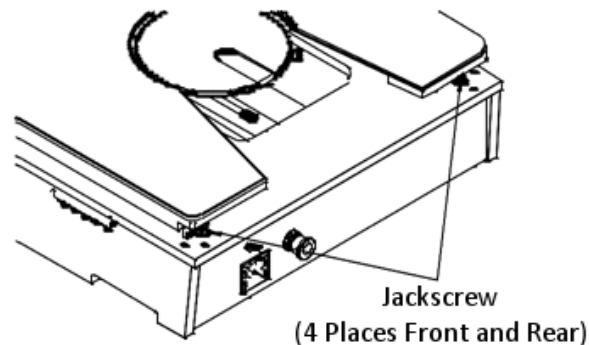

FIGURE 5-4. PLATEN JACKSCREW(S) LOCATION
The raising and lowering of the PLATEN is controlled by four (4) jackscrews located under each corner of the PLATEN (Ref. Fig 5-4). Each of these screws must be lubricated to ensure smooth operation of the **Z** motion. Apply a light coating of lubricant (**The MICROMANIPULATOR Co.** P/N A1011545) on each of the screws. As with the stage, move the PLATEN to its extremes of travel and wipe off any excess lubricant collected on the bottom of the riser screws.